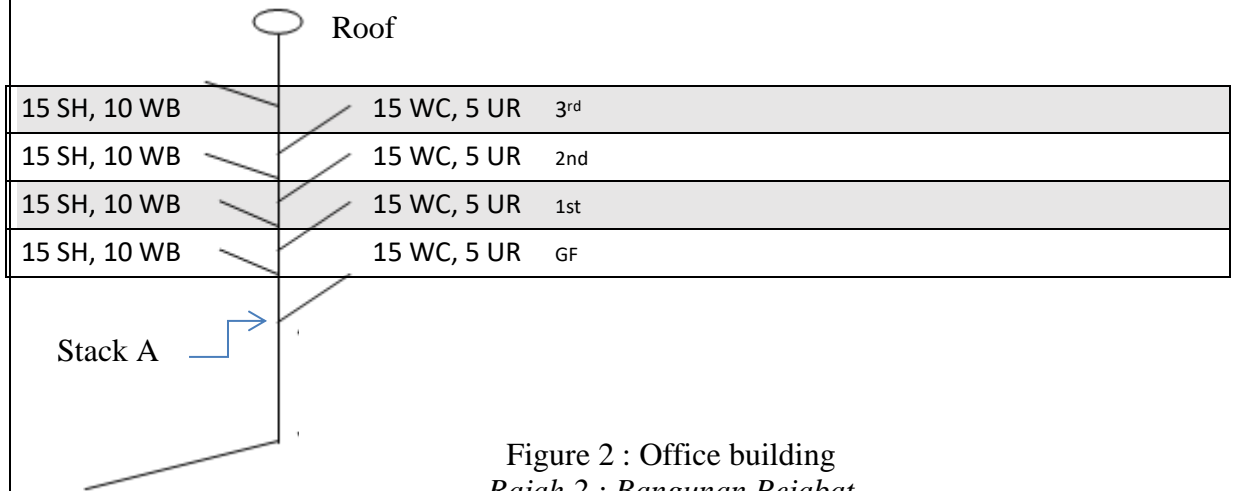

Figure 2 : Office building
- (b) Using the office building diagram in Figure 2, determine:
*Jumlah nilai (DU) bagi paip cabang luahan*